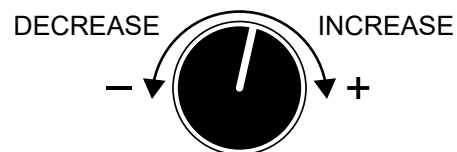

Figure 49. Voltage Regulator
7. If the voltage is not within the specified tolerance, use the voltage regulator (Figure 49) to increase or decrease the desired voltage.